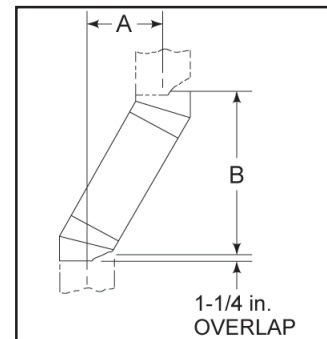

Figure 7 - Chimney Offset/Return
- Measure how far the chimney needs to be shifted to enable it to avoid the overhead obstacle. See Figure 7, dimension "A" to determine chimney sections required to achieve the needed shift.
Example: Your "A" dimension from Figure 7 is 14-1/2 in.. Using Table 1 the dimension closest to, but not less than 14-1/2 in. is 14-5/8 in. using a 30-deg offset/return. It is then determined from the table that you would need 33 in. (Dimension "B") between the offset and return. The chimney components that best fit your application are two SL312s.